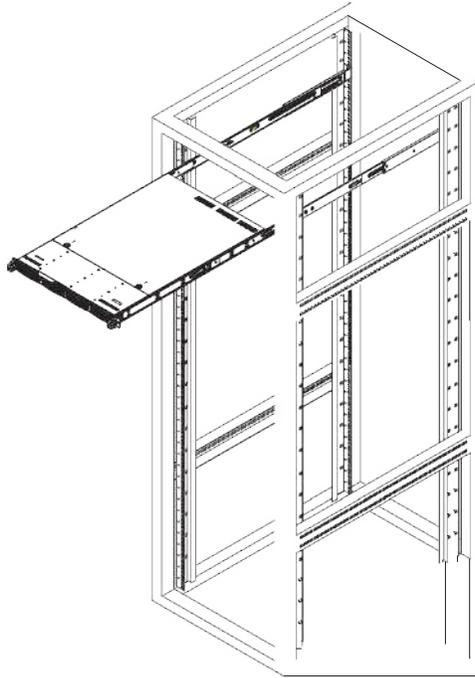

Figure 2-3. Installing the Server into a Rack
2. Slide the chassis rails into the rack rails, keeping the pressure even on both sides (you may have to press the locking tabs when inserting). See Figure 2-3.
Note: Figure 2-3 is for illustrative purposes only. Always install servers and switches to the bottom of a rack first.